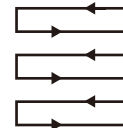

Fig. 20
5. Mow in slight overlapping rows. The most effective pattern for mowing lawns is straight lines along one of the sides. This will keep the rows even and ensures that all the lawn is cut without missing any spots (Fig. 20).
8. Empty the grass catcher (16) regularly.